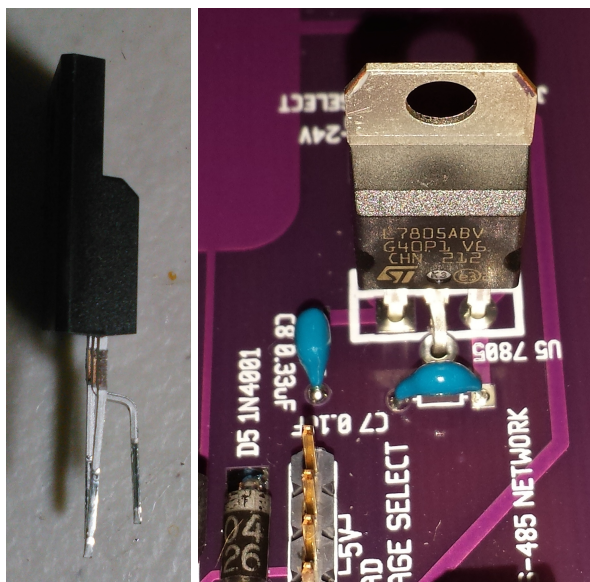

Figure 5.4: Bending the Pins of the MOSFETs and 7805
26. Install (3) 4-position jumper block headers at J3–J5. Solder.
29. Install (2) 5-position terminal blocks at J1 and J8.
30. Install (2) 2-position terminal blocks at J6 and J7.
31. Using ESD protection, lay out (4) MOSFETs on your workbench.
32. Prepare each MOSFET by bending the middle lead 90° up toward the front of the transistor body, then move your pliers down the lead another 0.1" and bend it 90° back again, parallel to the other pins again. It should now look like the photo in Figure 5.4 and should fit easily into the holes at Q0 on the PCB.